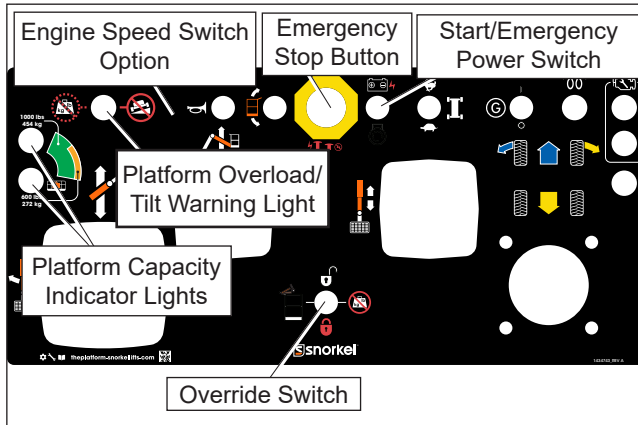

Figure 8.2 – Upper Controls
4. Pull the emergency stop outward (refer to Figure 8.2).
The optional engine speed switch is to the left of the horn switch on the upper control panel (refer to Figure 8.2). It is used to set the engine idle speed to either high or low idle. When in the downward or low engine speed position, the engine idle speed is reduced to 1,300 rpm. Low speed may be used to operate with reduced engine noise.